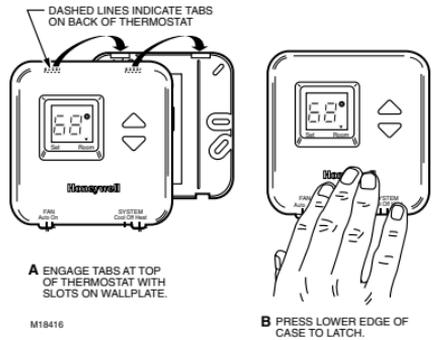

Fig. 7. Mounting thermostat wallplate.
2. Swing down the thermostat and press the lower edge of the thermostat onto the wallplate to latch. See Fig. 7.